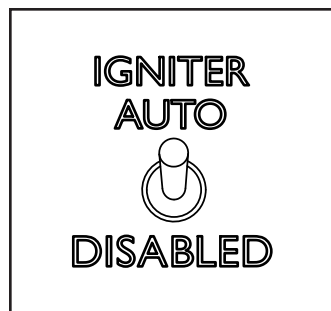
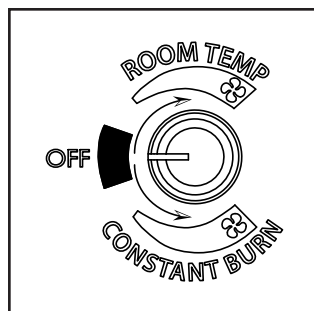

Figure 4.3
Figure 4.4
4. Flip toggle switch to desired mode "Auto or Disabled". Figure 4.3. Set feed limit knob to desired setting and turn mode dial to "Room Temp" or "Constant burn" Figure 4.4. **Note:** Feed rate of #4 is a good starting point. Adjustments may need to be made depending on fuel quality and/or heat output desired.